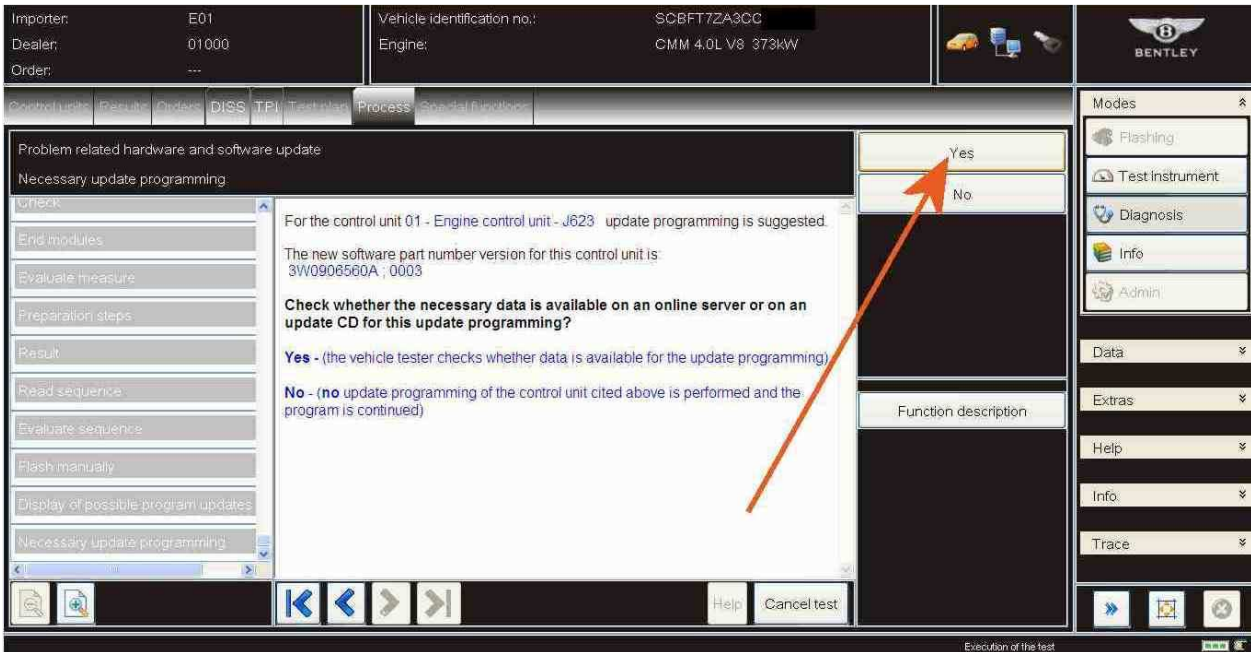
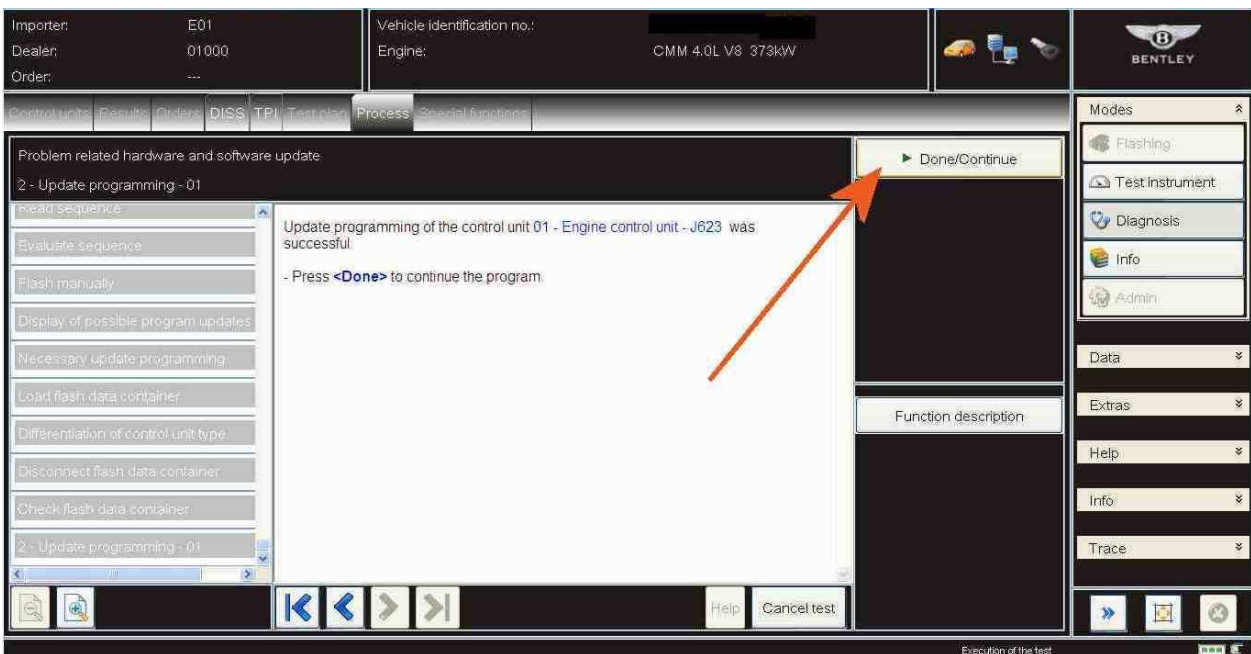

Figure 10
Figure 11
- When requested, enter your GEKO user ID and follow all on screen prompts until you arrive at Figure 10.
- At Figure 10 select Yes and follow all on screen prompts until the update programming of the control unit 01- Engine control unit – J623 was successful as shown in Figure 11
- Referring to Figure 11 select Done/Continue and follow all on screen prompts until **program end**.